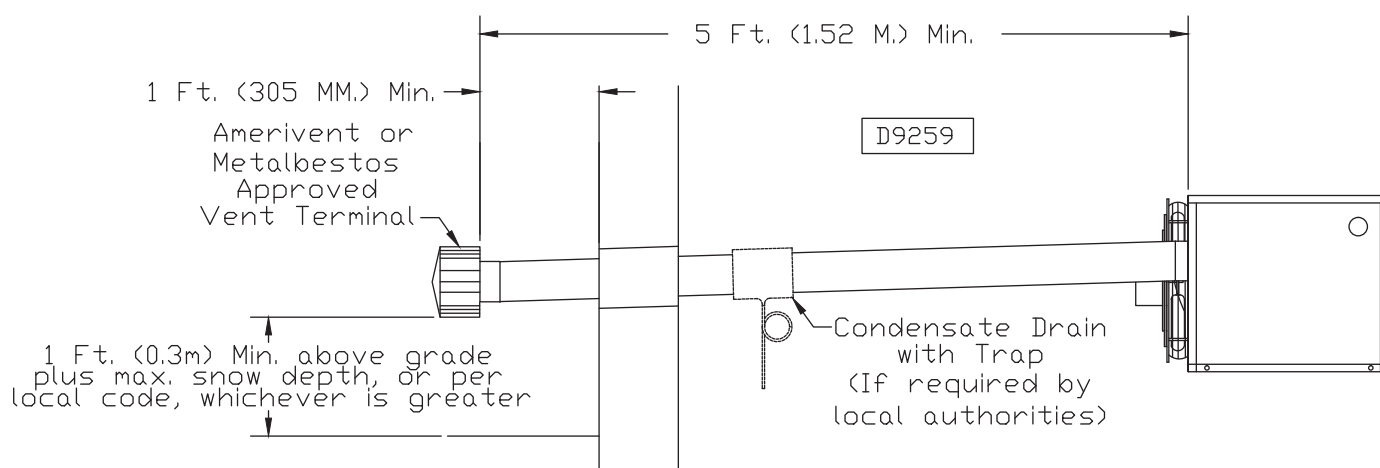

Figure 7 – Category III Horizontal Venting Requirements Using Single Wall Vent Pipe
HORIZONTALLY VENTED UNIT HEATERS (CATEGORY III) - FIGURES 7, 8A & 9A
6. Through the wall venting for these appliances shall not terminate over public walkways, or over an area where the condensate or vapor could create a nuisance, hazard, or could be detrimental to the operation of regulators, relief valves, or other equipment, see Figures 7, 8A and 9A.
8. The vent system must be installed to prevent collection of condensate. Pitch horizontal pipes downward 1/4 inch per foot (21mm per meter) toward the outlet for condensate drainage. Install a tee with a condensate drain at the low point of the pipe (see Figure 7). As an alternate, a 3/8 inch diameter hole may be drilled at the low point of the pipe for condensate drainage.